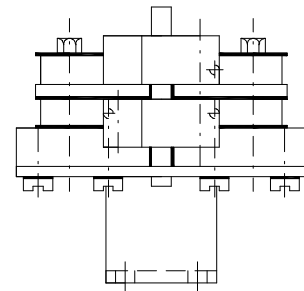

Fig.4
After pressing it is integral with the gearwheel (13) and dismantling is not available. The switching-off tips (53),(54),(56),(57) are screwed into the nuts placed in the positional unit groove. After loosening of the switching-off tip in the nut the tip-nut pair can be moved in the groove. The tips are designed to switch off the positional unit microswitches (37),(38),(39),(40) (Fig.4)